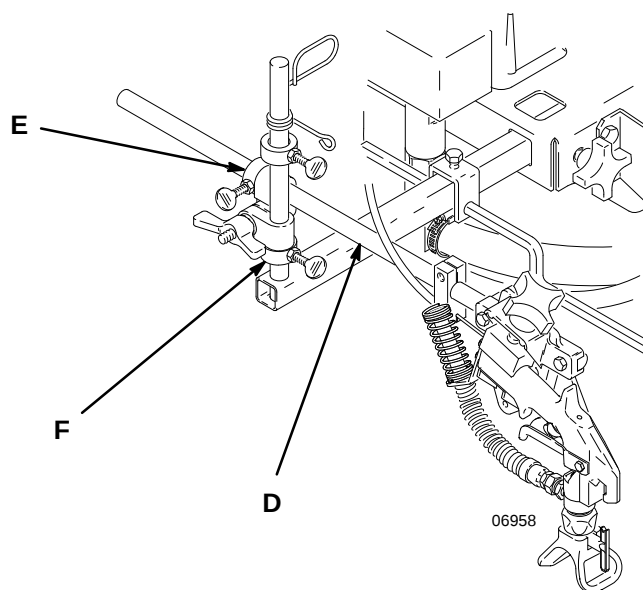

Fig. 2
3. Fig. 2. Set upper collar (A) on gun support bracket (B) so it touches top of arm support clamp (C).
10. Fig. 2. Set lower collar (F) on gun support bracket so it touches bottom of arm support clamp.